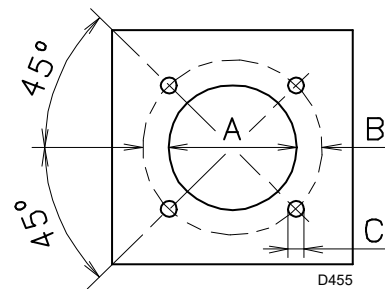

Fig. 14
Drill the combustion chamber locking plate as shown in Fig. 14 (Tab. J). The position of the threaded holes can be marked using the thermal screen supplied with the burner.
- Fit the entire burner onto the boiler hole prepared previously (Fig. 14), and fasten with the screws supplied.